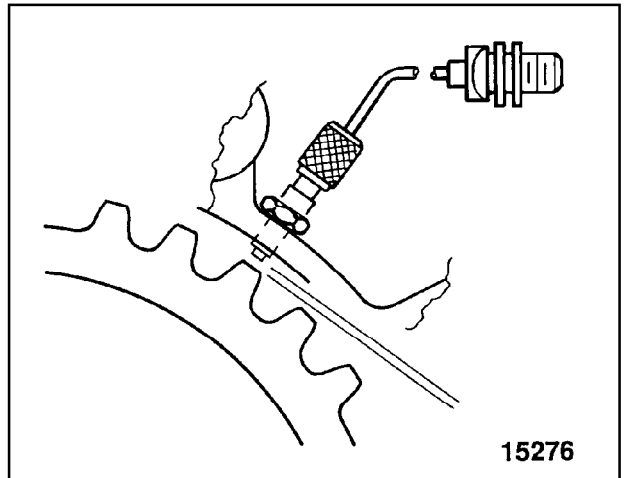

Figure 65
- A. In R.H. wheel assemblies reinstall sensor assembly (Figure 65). With feeler gauge obtain a 0.045 In. (1.143 mm) gap between the gear teeth and the sensor pickup. DO NOT tighten the lock nut more than 36 lbf in (0.4 kg•m).